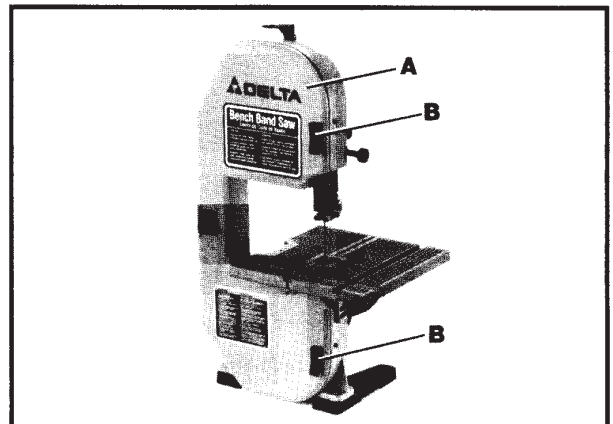

Fig. 15
For the purpose of making adjustments such as changing the blade, tracking the blade, blade guide adjustments, etc., the hinged door (A) Fig. 15, must be swung open as follows:
2. Lift up the two latch levers (B) Fig. 15, and open door (A).